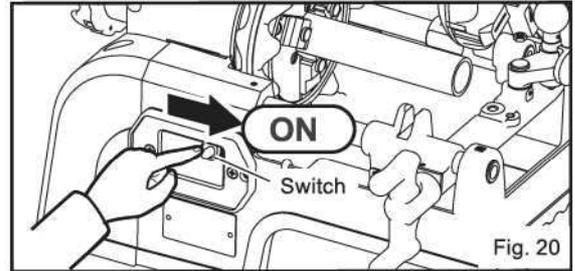

Fig. 20
- (1) Turn on the machine to set the main shaft in motion. (Fig. 20)